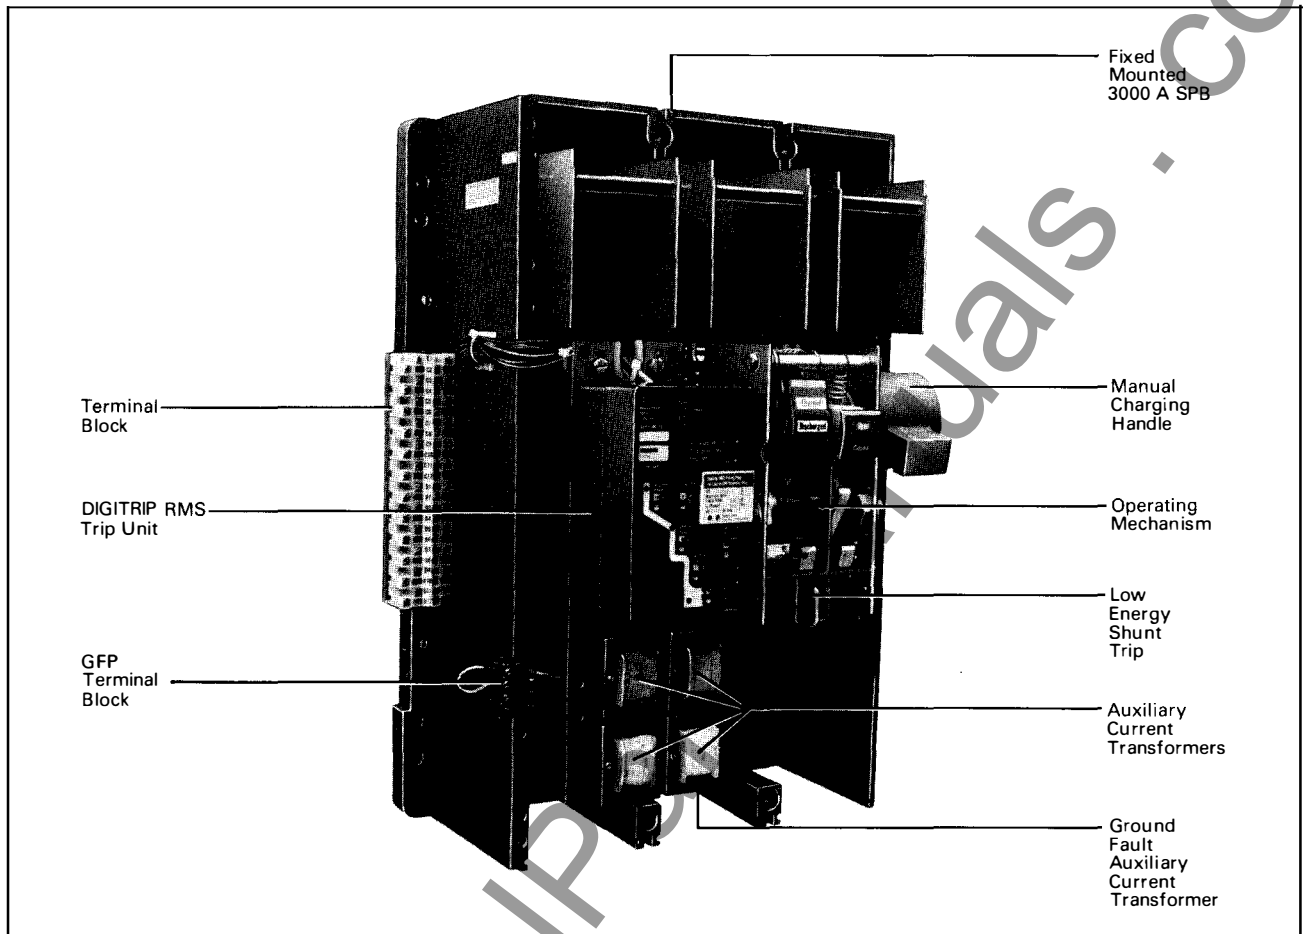
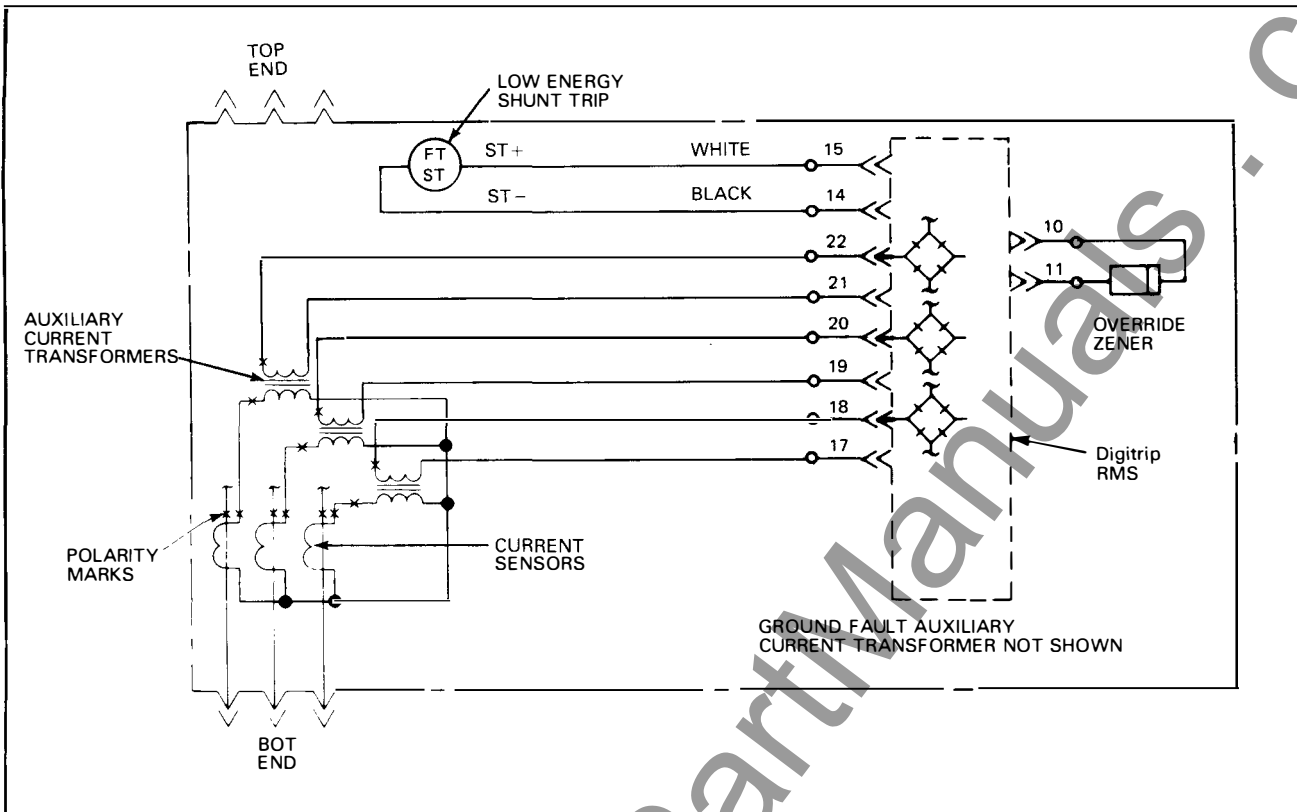
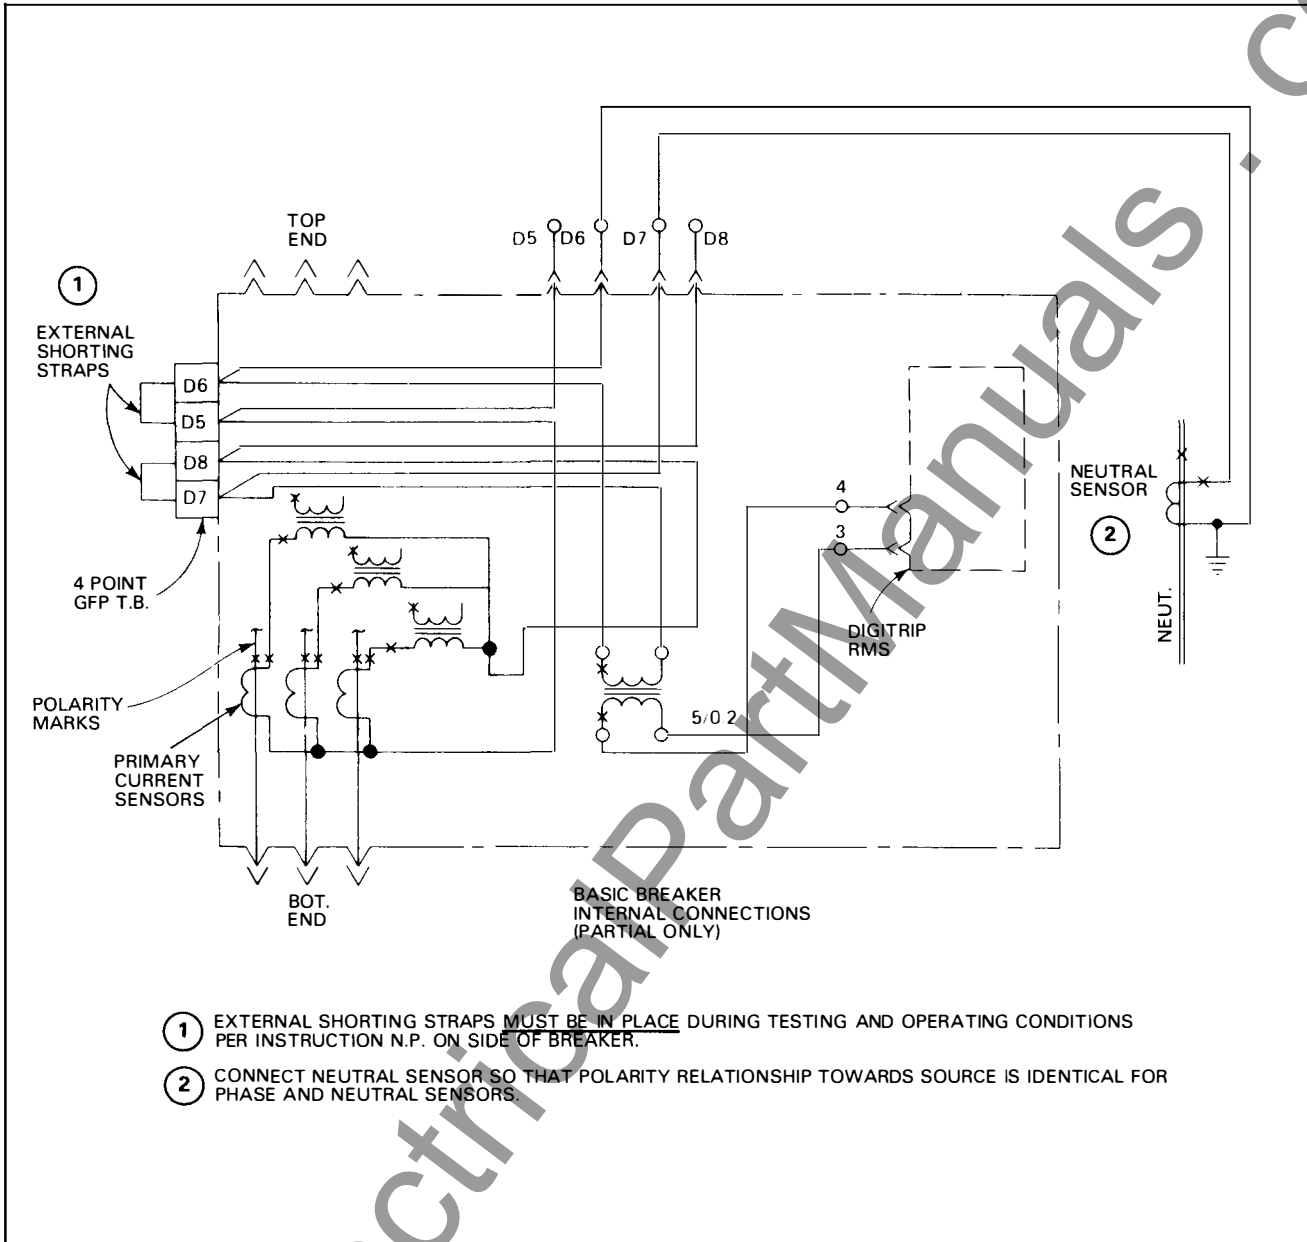

Fig. 4 View of 3000 A Circuit Breaker with Front Cover Removed to Expose Digitrip RMS Trip Unit
Fig. 6 Partial Internal Connections of a 3000 A Systems Pow-R Breaker
Fig. 11 SPB Master Connection Diagram Ground Fault External Connections 3PH., 4W., Residual, 2000/2500/3000/4000/5000 A Breakers (2000 A in 22 in. High Frame)
The Digitrip RMS 600 Trip Assembly consists of a Digitrip RMS 600 Trip Unit as described in I.L. 29-852, 3 or 4 auxiliary current transformers, a stab-in trip unit terminal block and a Power/Relay module mounted as illustrated in Figs. 4 and 5. The Digitrip RMS 600 Trip Unit is similar to a Digitrip RMS 500 Trip Unit with the addition of a four-digit display, three phase (IA, IB, IC) and one ground current (IG) green pointer LEDs along with a stepping pushbutton, a red High Load LED as illustrated in Table 1. Signal contacts are provided for hard wiring three
The Digitrip RMS 700 Trip Assembly consists of a Digitrip RMS 700 Trip Unit as described in I.L. 29-853, 3 or 4 auxiliary current transformers, a stab-in trip unit terminal block, a Power/Relay module and a Potential Transformer module with a disconnect plug for dielectric testing of the circuit breaker mounted as partially illustrated in Figs. 4 and 5. The Digitrip RMS 700 Trip Unit is similar to a Digitrip RMS 500 Trip Unit with the addition
Schematically, this may be represented as illustrated in Fig. 6 for a 3000A. Pow-R Breaker. This arrangement provides a very flexible system covering a wide range of tripping characteristics as illustrated by the Time-Current curves appearing in Sections 6.1, 6.2 and 6.3 of this instruction book. Not only is the Digitrip RMS Trip Unit adjustable, but selection of rating plugs provides a wide range of continuous current ratings.
The mechanical force required to initiate the tripping action of a type SPB Systems Pow-R Breaker is provided by a special low energy shunt trip. It is mounted, as shown in Fig. 4, on the underneath side of the mechanism housing. It contains a permanent magnet assembly, moving and stationary core assemblies along with a spring and coil. The circuit breaker mechanism assembly contains a mechanism actuated reset lever and a rotating trip lever to actuate the tripping action of the circuit breaker.
Three modes of sensing ground fault currents are generally used: residual, source ground and zero sequence. Systems Pow-R Breakers are internally prewired to accommodate all three types. A side mounted 4-point terminal block, as shown in Fig. 4, is provided to revise connections required to accommodate each method. A nameplate is provided on the side of the circuit breaker that illustrates the required connections. Applicable connection variations are illustrated in Figs. 8 and 10.
In the larger frame ratings, 2000A. through 5000A., the auxiliary current transformers are mounted as shown in Fig. 4. The ground fault auxiliary current transformer is supplied only when the ground fault protection function is supplied in the Digitrip RMS Trip Unit. A partial internal schematic is shown in Fig. 6 as well as in the residual diagram shown in Fig. 11.
The potential disconnect plug (not shown) is mounted on the left side of the Systems Pow-R Breaker just above the 4-point GFP terminal block as shown in Figs. 4 and 5. This plug must be removed prior to any dielectric testing of the circuit breaker.